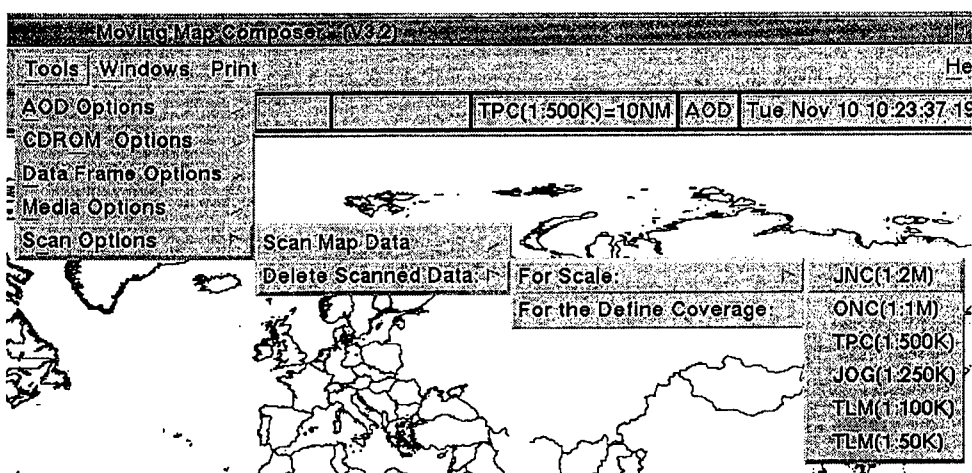

Fig. 67 — Delete a defined coverage of scanned data (at one or more scales)
- 2) To delete a defined coverage of scanned data (at one or more scales), first use the MMC define coverage buttons (Section 3.2.3) to outline the area(s) to be deleted (individual segments or entire areas). Then click on *Tools, Scan Options, Delete Scanned Data, and For the Defined Coverage* (Fig. 67). MMC will display a verification message; click on *Continue* to proceed or *Abort* to cancel.